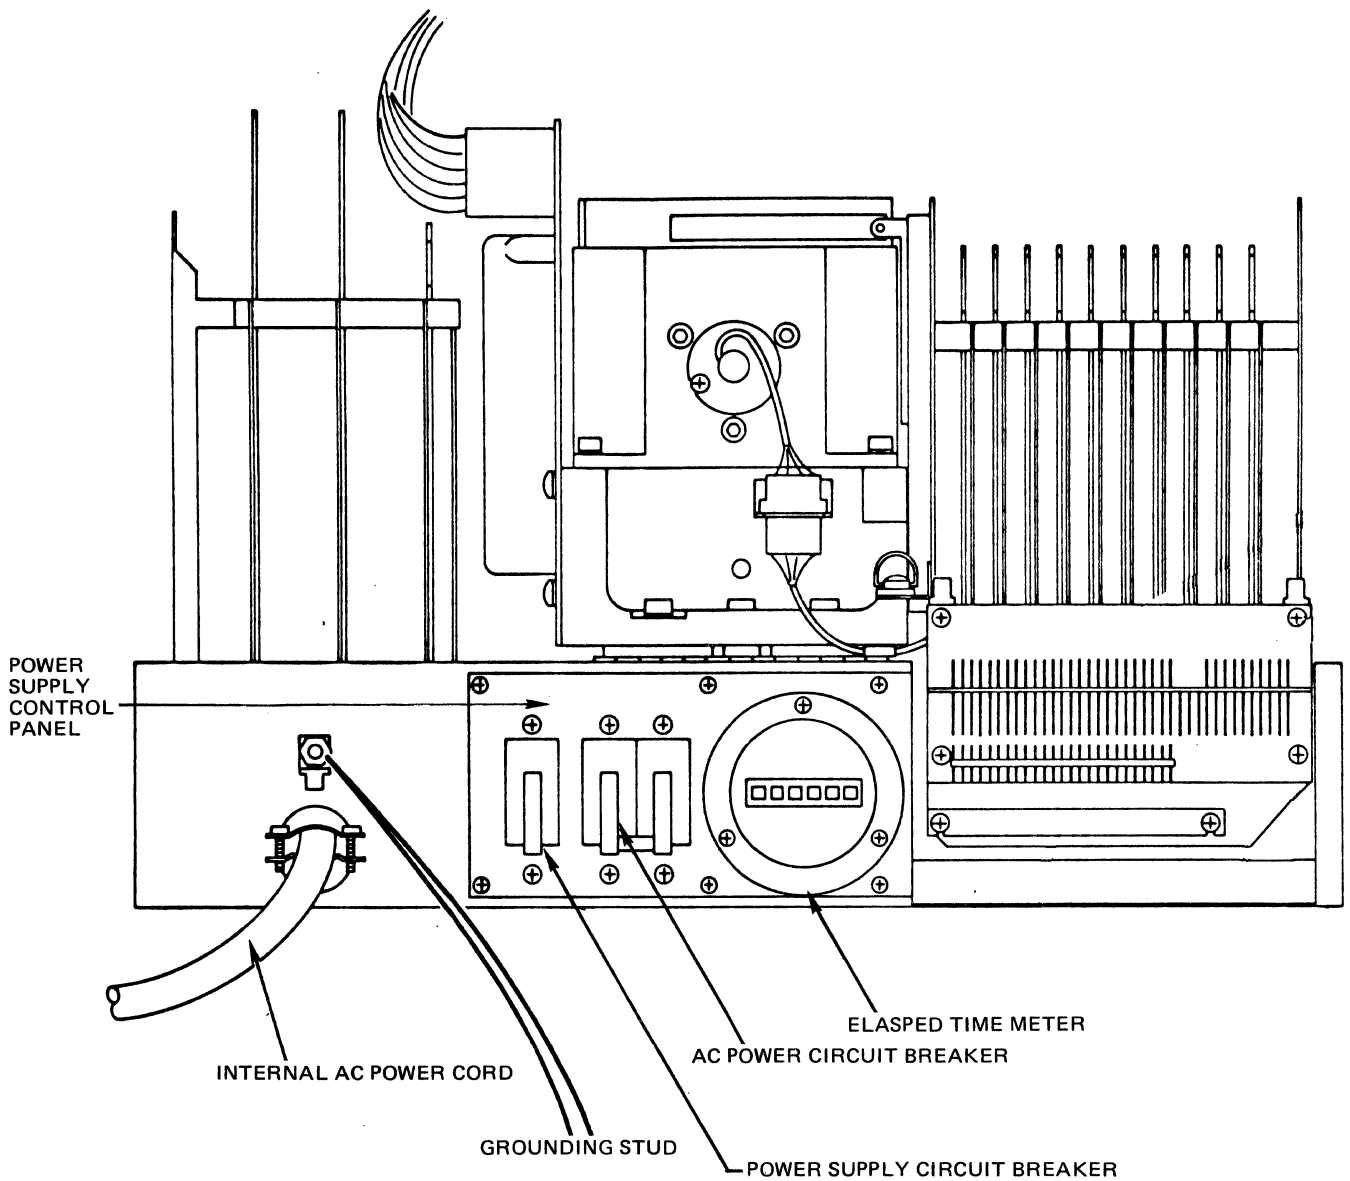
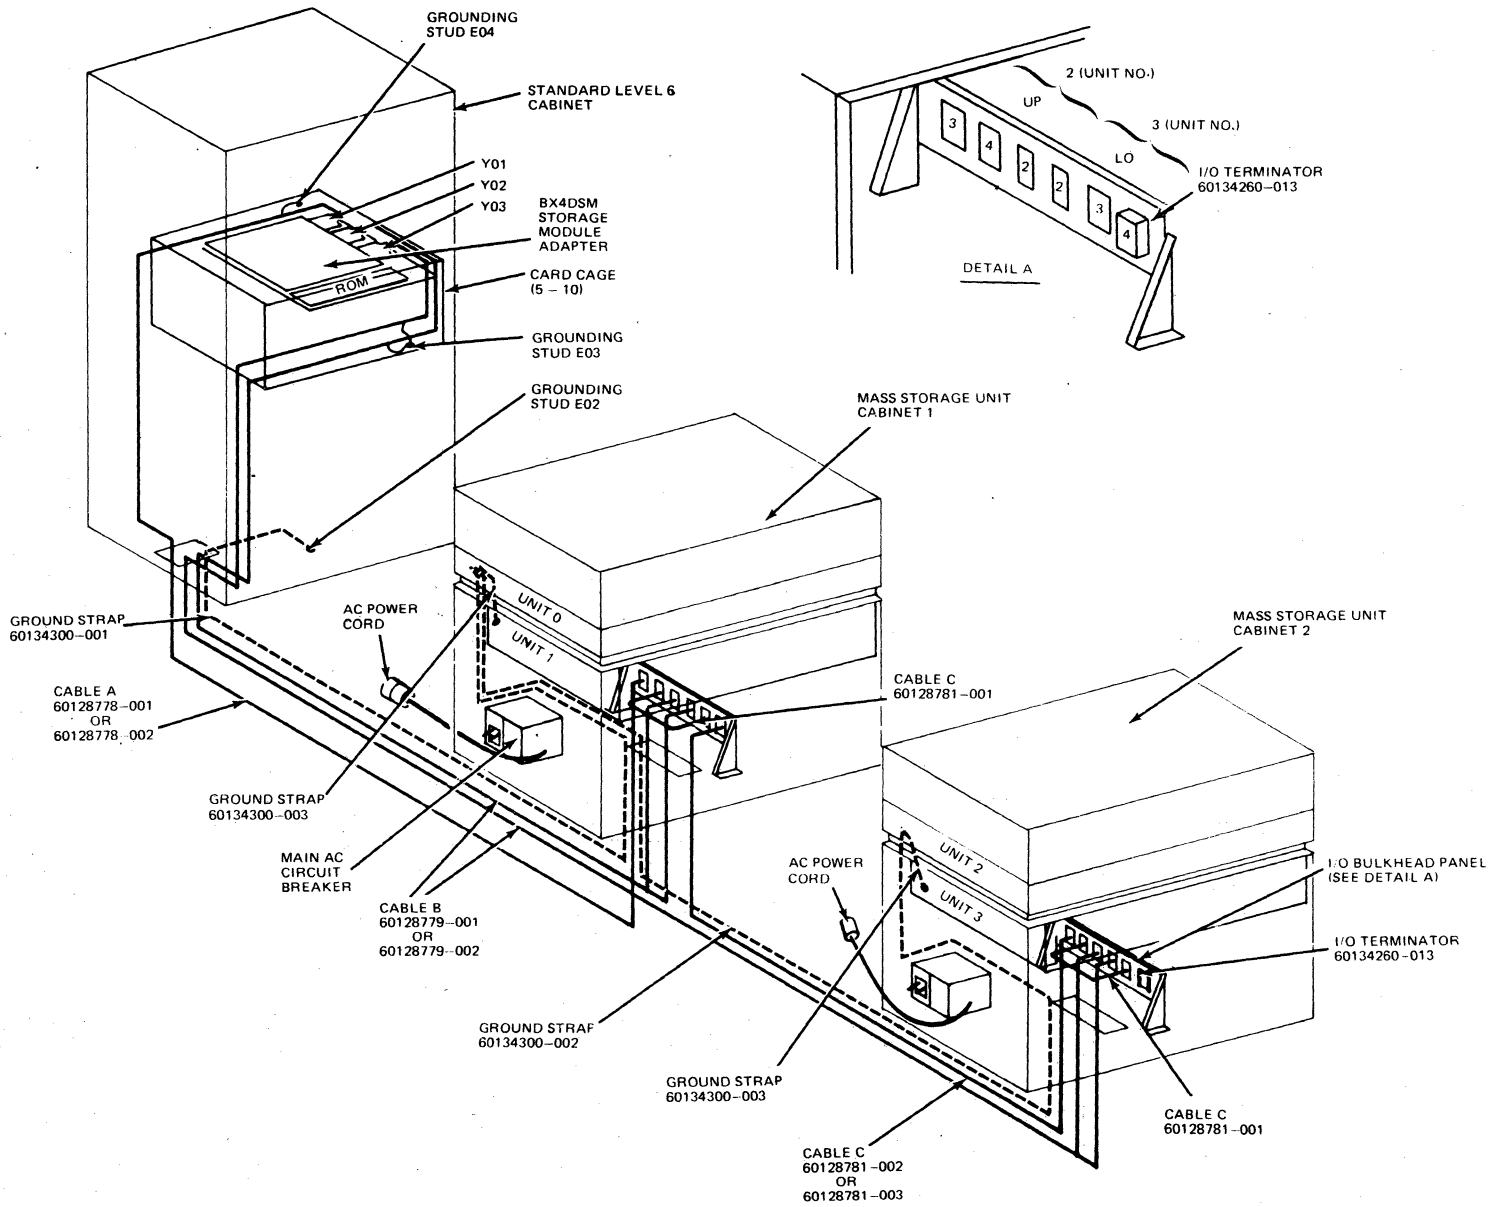

Figure 2-10 Rear View of a Mass Storage Unit
Figure 2-12 Cabling Installation for Two Mass Storage Unit Cabinets with One Expansion Drawer per Cabinet
15. Route ground strap 60134300-001 into cable entry area at base of mass storage unit cabinet 1 and up to grounding stud (see Figure 2-10) located above internal ac power cord at rear of upper mass storage unit 0 (see Figure 2-9) and connect ground strap to grounding stud using supplied hardware.
16. Locate ground strap 60134300-002 and route one end into cable entry area at base of mass storage unit cabinet 1, and up to grounding stud (see Figure 2-10) located above internal ac power cord at rear of upper mass storage unit 0 (see Figure 2-9).
18. Locate other end of ground strap 60134300-002 and route it into cable entry area at base of mass storage unit cabinet 2, and up to grounding stud located above internal ac power cord (see Figure 2-10) at rear of upper mass storage unit 1 (see Figure 2-9).
A logic diagram for cabling mass storage units is shown in Figure 2-8. A maximum of four units is allocated per controller board. The routing and connection points for the interconnecting cables and ground straps for this installation are shown in Figure 2-12, while Table 2-2 provides a list of the interconnecting cables and ground straps required.
7. Locate ground strap 60134300-001 and route it through cable entry area in base of standard Level 6 cabinet to grounding stud E02 located in base of cabinet, as shown in Figure 2-12. Fasten ground strap to cabinet ground stud using supplied hardware.
15. From rear of both mass storage unit cabinets, connect one end of ground strap 60134300-003 to the upper mass storage unit's grounding stud (see Figure 2-10) located above internal ac power cord at rear of unit (see Figure 2-12).
16. Connect other end of ground strap 60134300-003 to lower mass storage unit's grounding stud (see Figure 2-10), located above internal ac power cord at rear of unit (see Figure 2-12) and fasten with hardware supplied.
18. Route ground strap 60134300-001 into cable entry area at base of mass storage unit cabinet 1 and up to grounding stud (see Figure 2-10) located above internal ac power cord at rear of upper mass storage unit 0 (see Figure 2-12) and connect grounding strap to grounding stud.
19. Locate ground strap 60134300-002 and route one end into cable entry area at base of mass storage unit cabinet 1 and up to grounding stud (see Figure 2-10) located above internal ac power cord at rear of upper mass storage unit 0 (see Figure 2-12).
21. Locate other end of ground strap 60134300-002 and route into cable entry area at base of mass storage unit cabinet 2, up to ground stud located above internal ac power cord (see Figure 2-10) at rear of upper mass storage unit 2 (see Figure 2-12).